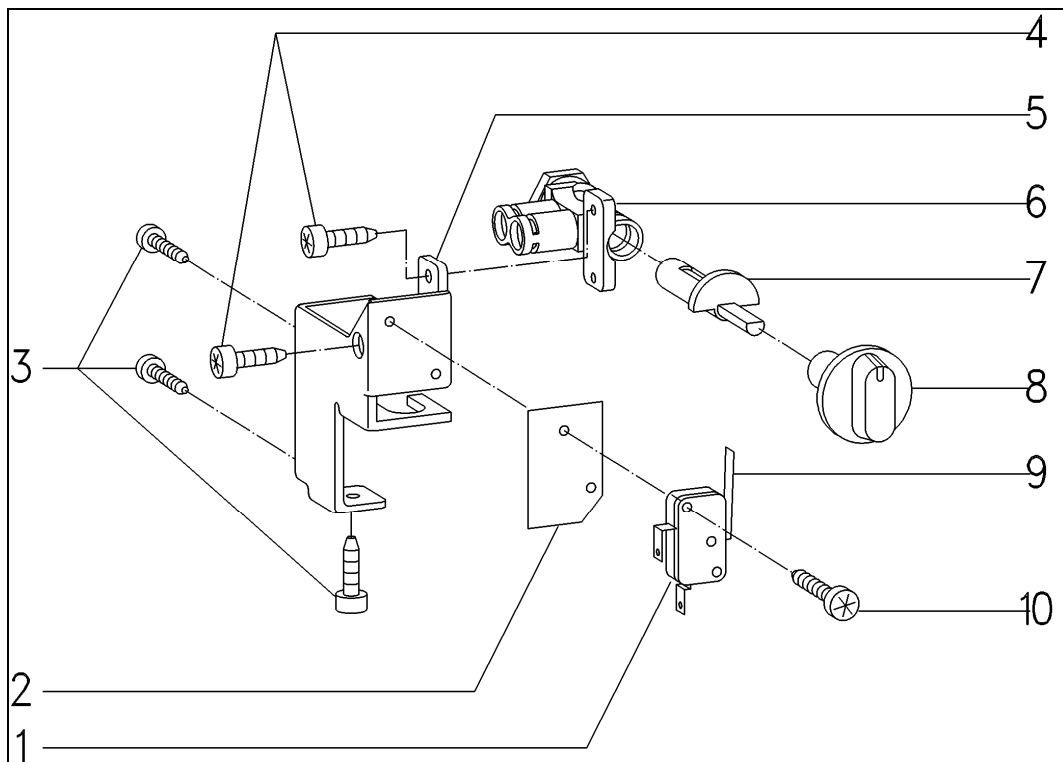

Figure 5-18: Components of Steam Valve and Steam Valve Switch
3. Pull off the switch knob (Figure 5-18, Item 8).
4. Remove the screws securing the mounting bracket (Figure 5-18, Item 3) to the rear door panel.
6. Remove the steam generator switch screws (Figure 5-18, Item 10).
7. Remove the steam generator switch (Figure 5-18, Item 1).
9. Remove the screws securing the valve housing to its mounting bracket (Figure 5-18, Item 4).